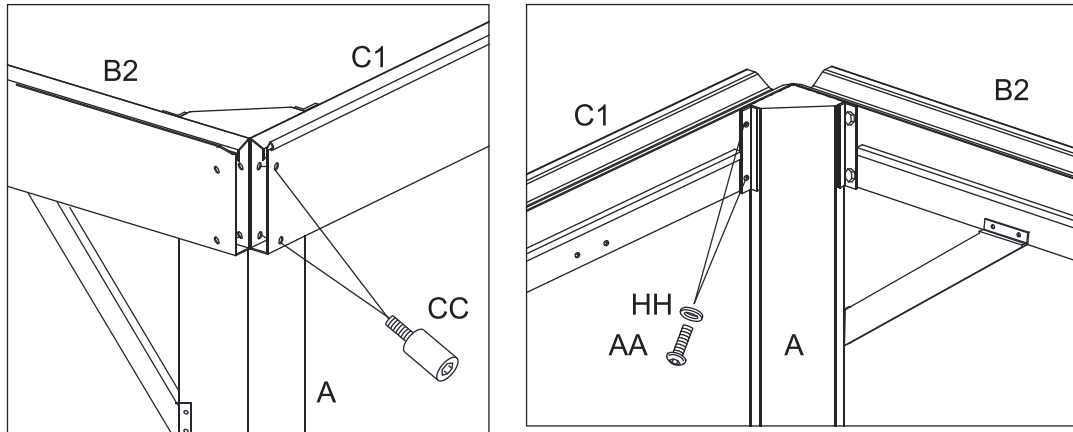

Figure 5.1
- 5.1. Attach Short Lintel (C1 and C2) to Corner Posts (A) first with Bolts (CC) then with Bolts (AA) and washer (HH) . Tighten all the Bolts. Repeat for opposite side . Tighten all Bolts. See Figure 5.1 and Figure 5.3.